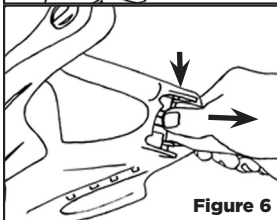

Figure 6
- 7 Push the gray retention clip downwards against the mask as you pull the clip simultaneously rearward. This will ensure the clip hook engages the lens to lock it into place. [See Figure 6]